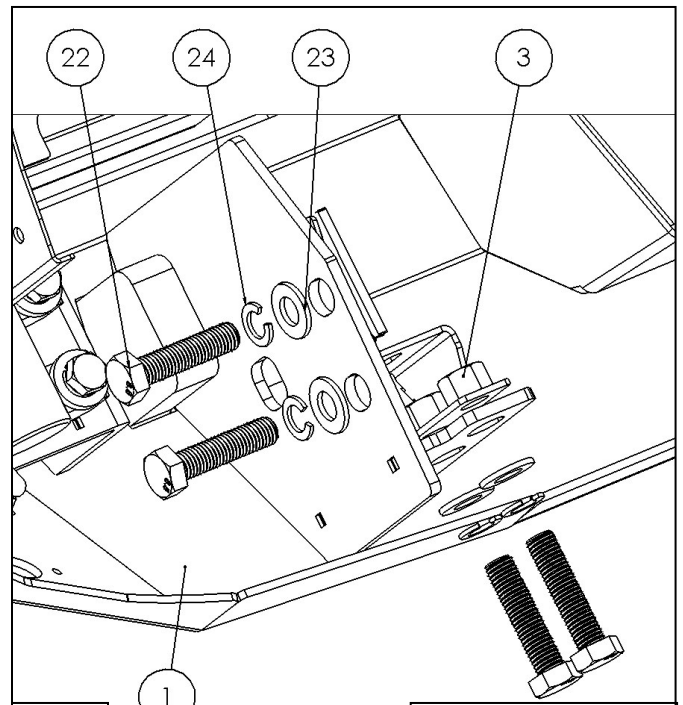

Fig 7
8. Using the supplied M14 Hardware (22-24) secure the bumper to the frame in the same bolt locations as the OEM bumper. See **Figure 7**.
8. Install the Tailgate Mount (6) using the supplied M8 Hardware. See Figure 7.